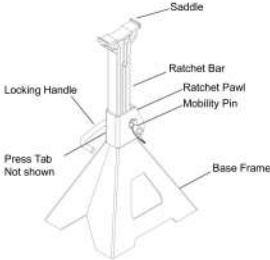

Figure 1 - Typical Jack Stand Nomenclature
3. Verify the product and your application are compatible. If in doubt, contact Pro-Lift Customer Support @ (888) 332-6419.
6. Ratchet bar/collar lock is accomplished by bending the press tab (Fig. 1) inward using a suitable hammer and punch. This will prevent inadvertent loss of the ratchet bar.